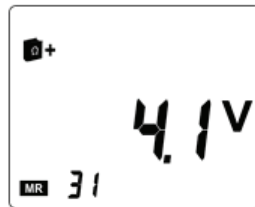

Figure 6-15
- Figure 6-15 illustrates a contact voltage measurement (product ZxI).